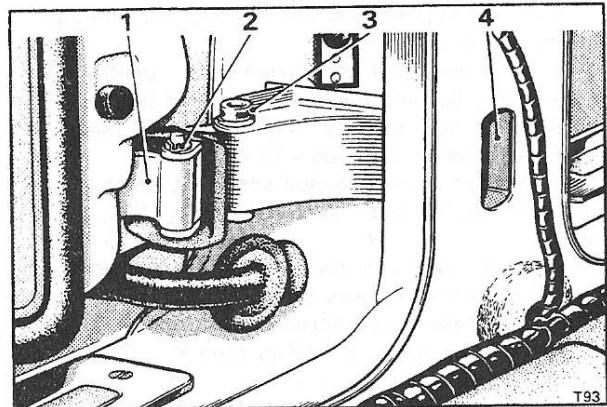

Fig. S24 Lower door hinge
5. Remove the spring clip securing the check strap pin to the door linkage (see Fig. S24, item 2).
6. Remove the socket headed screw securing the lower hinge to the body bracket (see Fig. S24, item 3).
7. Using an Allen key and extension bar remove the two socket headed screws securing each hinge to the body. Access to the screws is attainable through the recesses in the centre pillar (see Fig. S24, item 4).